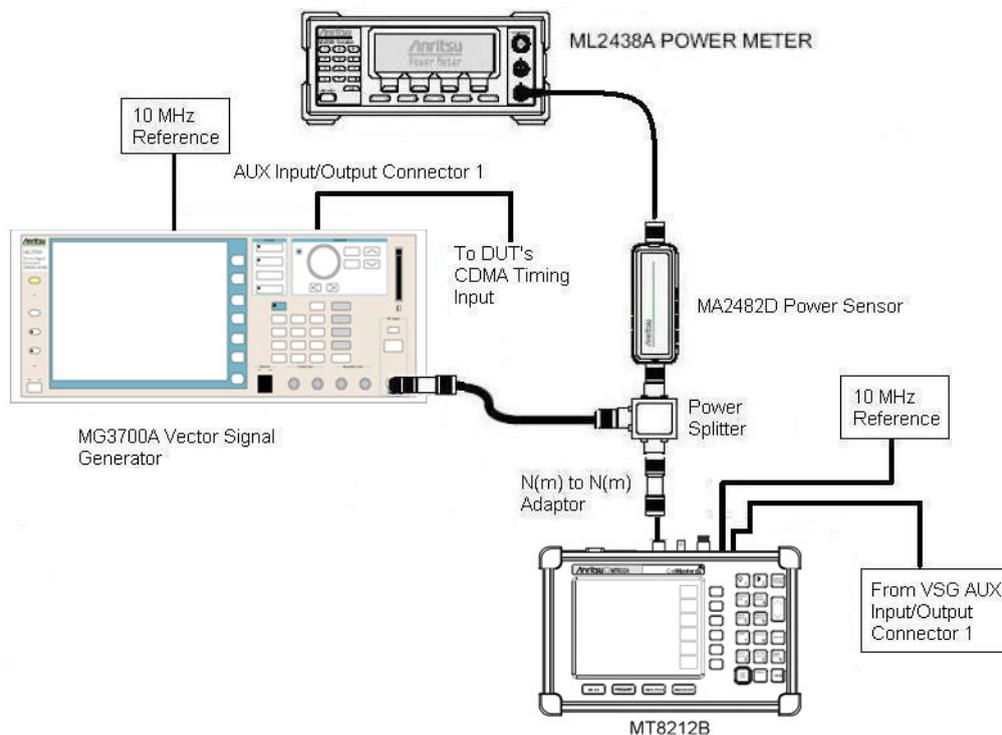

Figure 2-7. EVDO Signal Analyzer Option Verification
1. Connect the equipment as shown in Figure 2-7. Confirm that the external 10 MHz Reference is connected to both the 10 MHz Ref input of the MG3700A and the Ext Freq Ref input of the MT8212B.